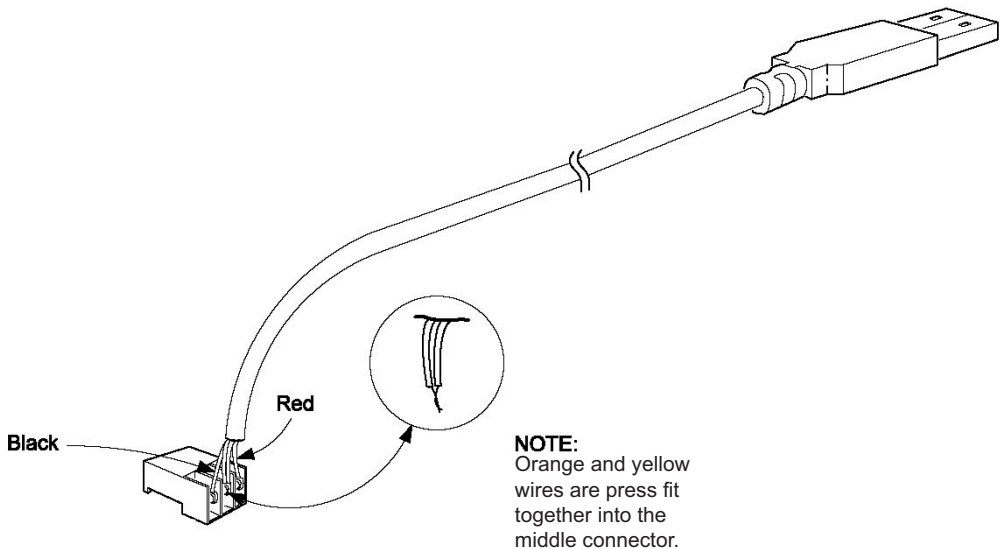

Figure 2. USB-to UART Cable
2. Connect the USB-to-UART cable (Figure 2 on page 6) between a PC and connector M-P3 of the Control Unit.
3. Follow the setup procedure in “Setting up the COM Port and Speed” on page 6 for the USB-to-UART cable (Figure 2 on page 6) to set up communication between a PC and the Control Unit.